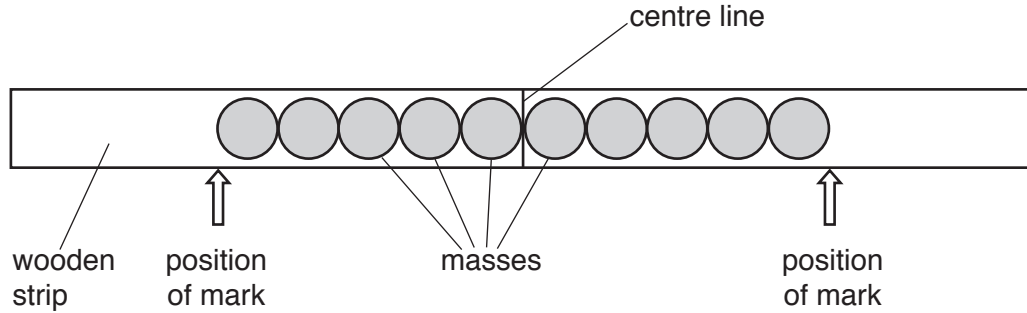

Fig. 2.1
Place the ten slotted masses along the strip, as shown in Fig. 2.1.
- (ii) Using the pen, make a small mark on the edge of the strip at each end of the row of masses, as shown in Fig. 2.1.